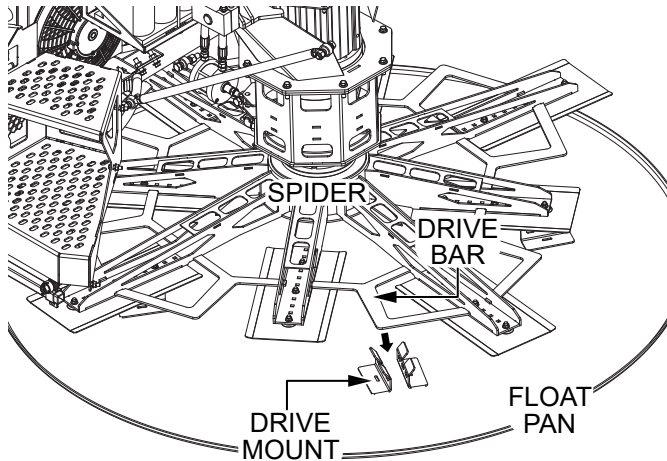

Figure 83. Float Pan Alignment
- Align the float pan drive mounts as close as possible with the spider drive bars (Figure 83). Lower the float slightly and check the alignment between the drive mounts and drive bars. Spin the rotor by hand and reposition the pan as needed to ensure proper alignment.